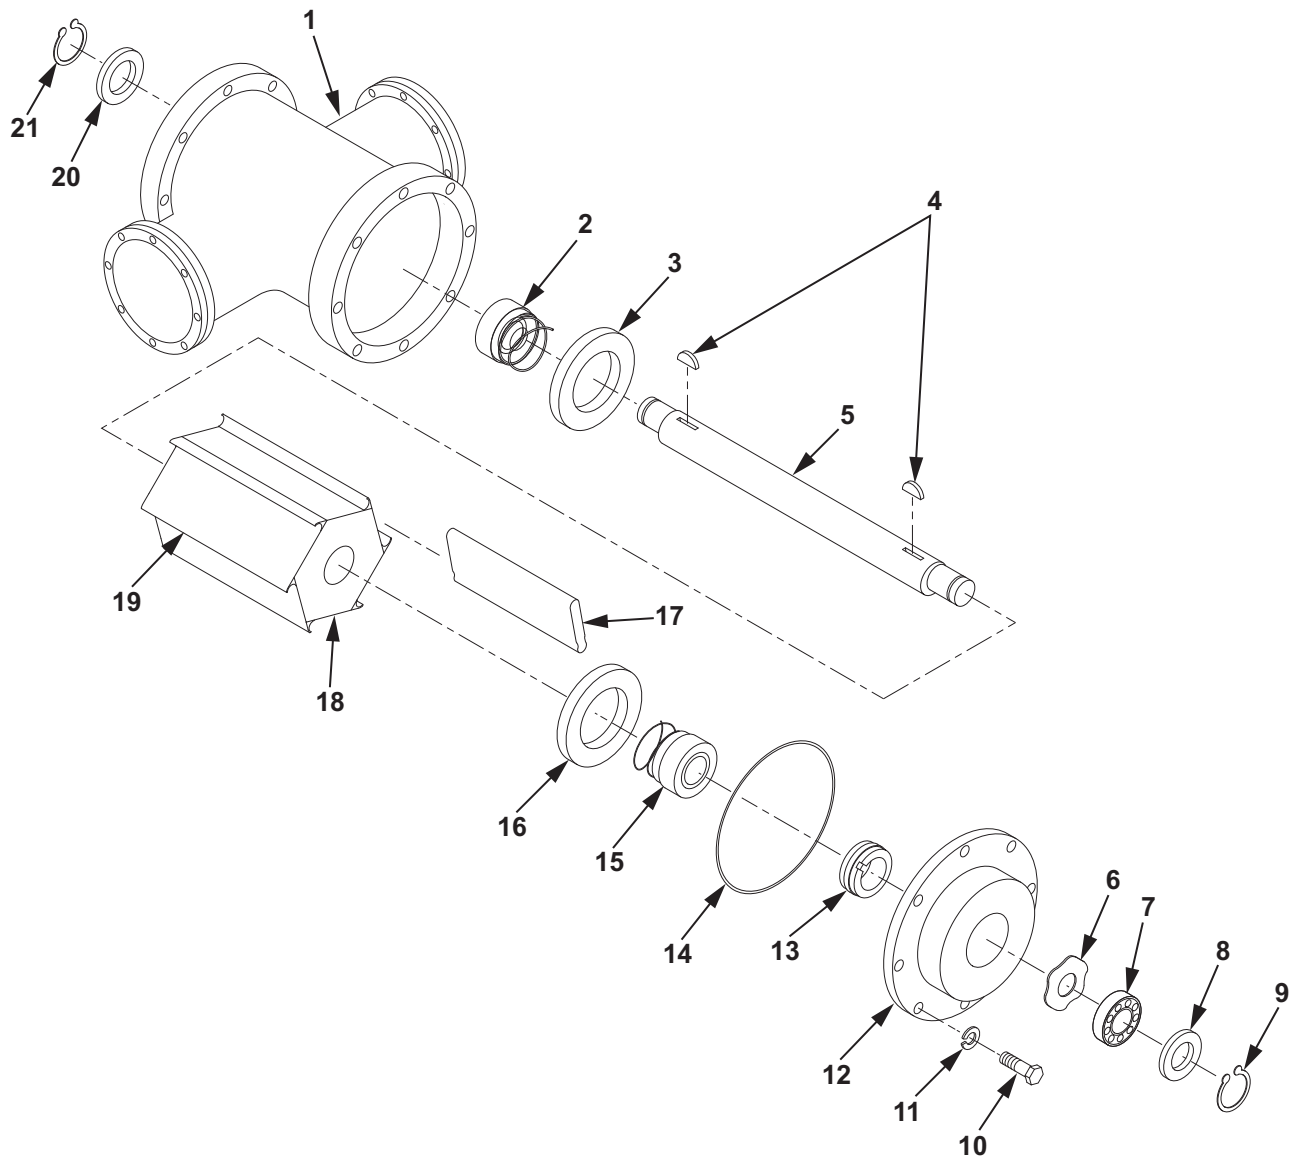

Figure 3. Fuel Additive Injection Pump Bearing Housing Disassembly.
32. Remove rotor (Figure 3, Item 9) from fuel additive injection pump fluid motor housing (Figure 3, Item 1).
33. Remove two keys (Figure 3, Item 4) from shaft (Figure 3, Item 5).
34. Using retaining ring pliers, remove snap ring (Figure 3, Item 21) from shaft (Figure 3, Item 5).
35. Remove thrust washer (Figure 3, Item 20) from shaft (Figure 3, Item 5).
36. Using an assistant, pull firmly on shaft (Figure 3, Item 5) to remove from fuel additive injection pump fluid motor housing (Figure 3, Item 1).
37. Remove mechanical (carbon) seal (Figure 3, Item 2) from shaft (Figure 3, Item 5).
38. Remove wear ring (Figure 3, Item 3) from shaft (Figure 3, Item 5).